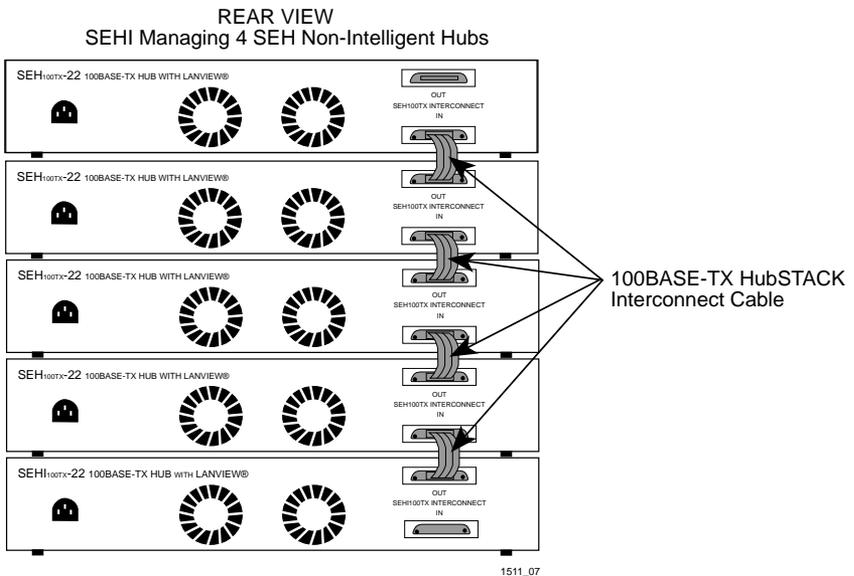

Figure 4-5 Stacking the SEH and SEHI
- Attach the interconnect cable to the “IN” port on the rear panel of the SEH as shown in Figure 4-5.
3. Attach the interconnect cable to the “IN” port on the rear panel of the second SEH in the stack as shown in Figure 4-5.